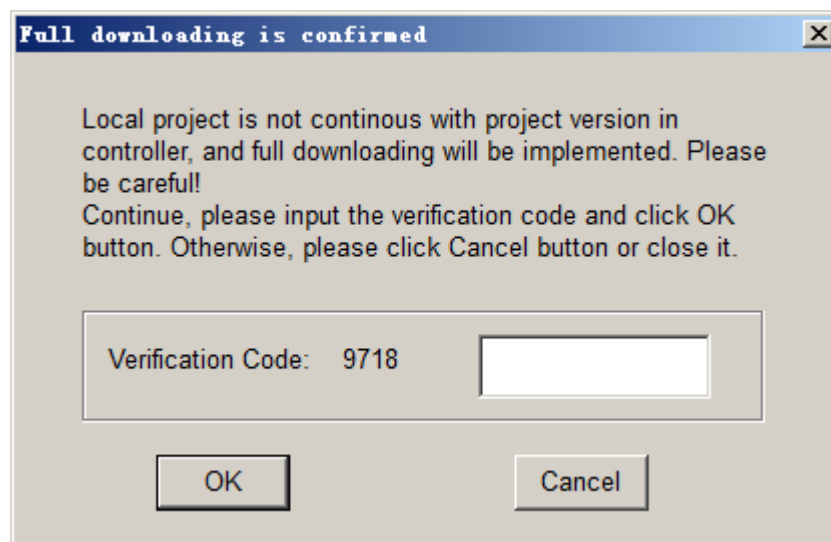

Figure 4-29 Message Prompting Full Download
Step 4. Pop up an information window prompting full download as shown in Figure 4-29, click **OK** to download the user program. In this case, ensure good communication connection between the programming device and the CPU module. Otherwise, an error message shall be prompted.